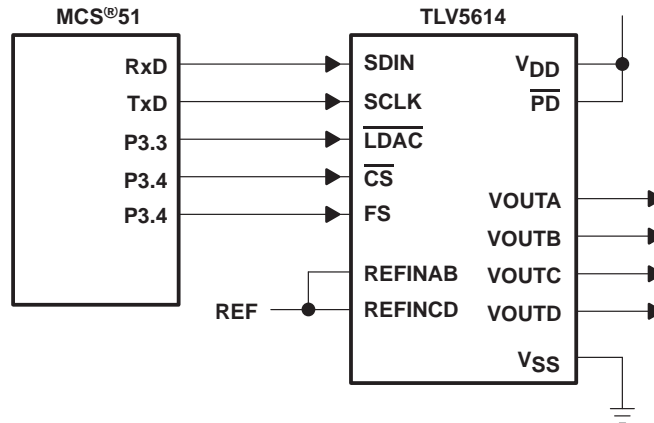

Figure 19. TLV5614 Interfaced With MCS[®]51
Figure 19 shows an example of how to connect the TLV5614 to an MCS[®]51 Microcontroller. The serial DAC input data and external control signals are sent via I/O port 3 of the controller. The serial data is sent on the RxD line, with the serial clock output on the TxD line. Port 3 bits 3, 4, and 5 are configured as outputs to provide the DAC latch update ($\overline{\text{LDAC}}$), chip select ($\overline{\text{CS}}$) and frame sync (FS) signals for the TLV5614. The active low power down pin ($\overline{\text{PD}}$) of the TLV5614 is pulled high to ensure that the DACs are enabled.